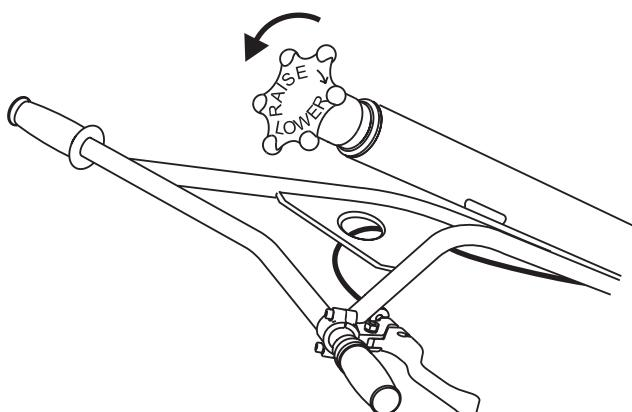

Figure 9. Pitch cable (Standard Handle)
1. Expose the pitch cable to maximum by adjusting the handle pitch to the "no pitch", counter-clockwise position (Standard Handle) (Figure 9). Pivot the pitch handle forward or no pitch for the folding Quick Pitch handle, (Figure 10).